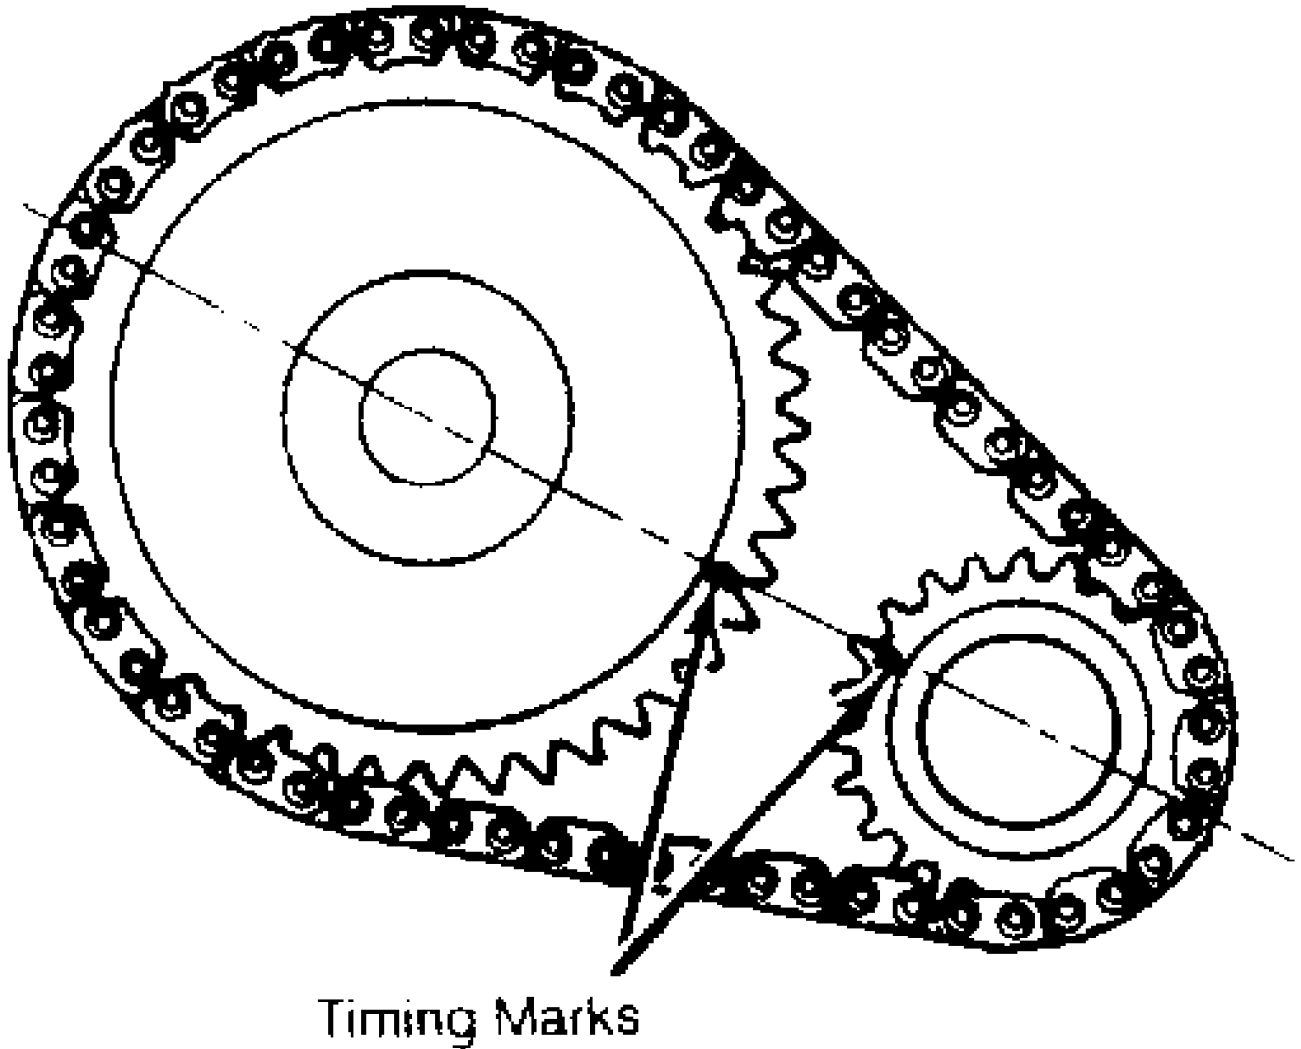

Fig. 4: Aligning Timing Marks
1) Lubricate camshaft and install. Avoid damage to camshaft bearings. Install timing gears and timing chain. Rotate crankshaft and camshaft so timing marks are aligned. See Fig. 4.